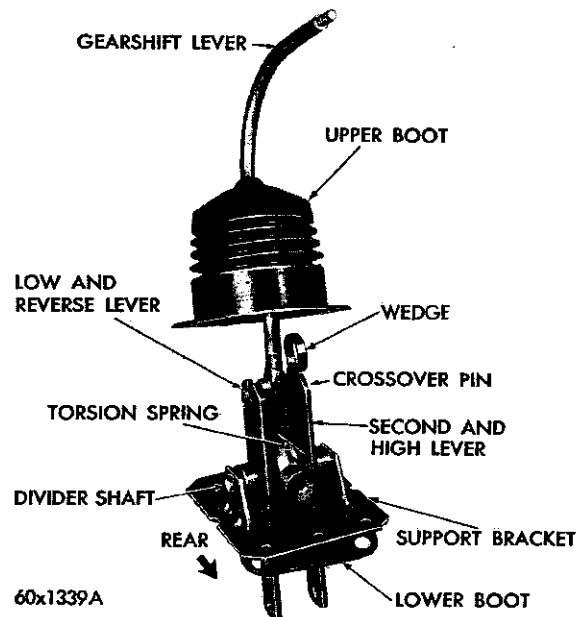
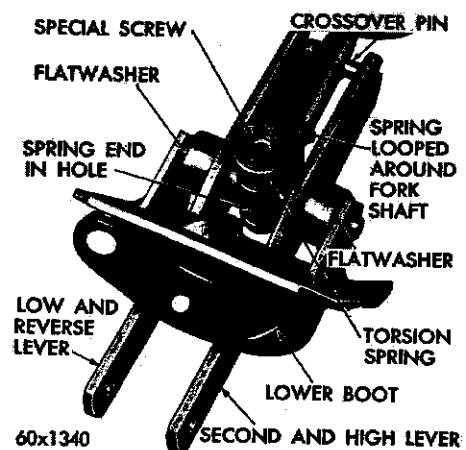

Fig. 10—Positioning Crossover Pin
Fig. 11—Lever Torsion Spring (Installed)
(5) Position the shift fork screw holes (in the divider, parallel with the center line of the divider shaft). Slide the gearshift fork and shaft down into position on the divider shaft with the gearshift knob facing to the rear and the three holes in the support plate (Fig. 10).
(6) Install the shift fork retaining screw and lock-washer (front). Do not tighten at this time.
(7) Engage the loop of the torsion spring with the gearshift fork shaft, and slide the other end into the hole at the bottom of the divider, as shown in Figure 11.
(8) Install the spring retaining screw and lock-washer, tighten both screws securely.
(9) Slide the lower boot up over the shift levers, being sure the screw holes are aligned.
(10) Slide the tool wedge between the second and high lever and the gearshift fork, as described in Paragraph "Gearshift Linkage Adjustments," then install gearshift assembly in the vehicle.
(11) Install the attaching bolts and tighten to 150 inch-pounds torque.
(12) Adjust the linkage. After readjustment has been made, reinstall boot and retainer and secure with screws.